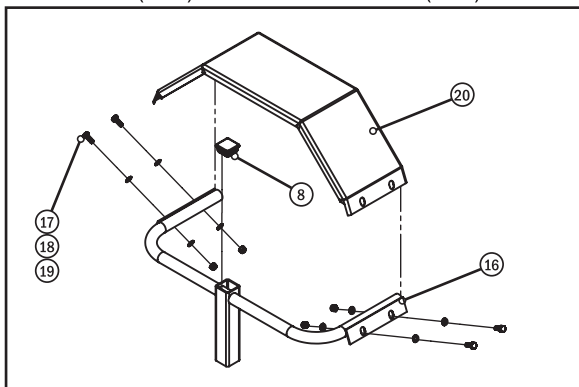
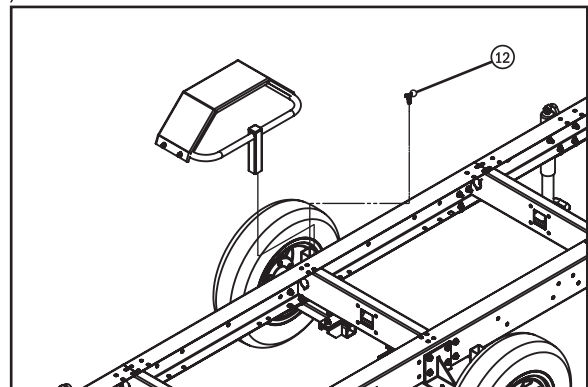

Fig. 13
Fig. 14
Step 19: Assemble the Fenders. Assemble the Fender (#20) to the Fender Bracket (#16) using the eight M8 x 20mm Hex Head Bolts (#17), sixteen M8 Flat Washers (#18), and eight M8 Lock Nuts (#19) (Fig. 13). Install the 40 x 40 mm plug onto the top of the Fender Bracket. Place the assembled fenders into the tube on the axle support and secure in place using the Thumb Screw M10 x 40 x 30mm (#12) (Fig. 14). Repeat for the other fender.